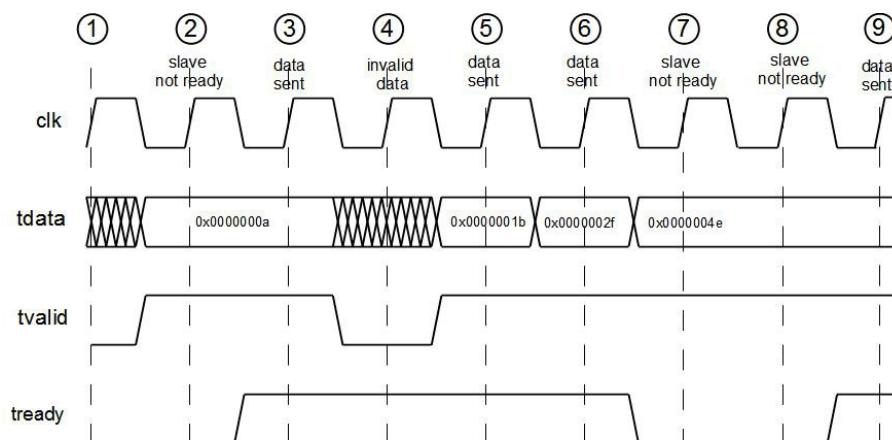

Figure 2
Figure 2 presents an example timing diagram for the AXI-Stream transmission. Master sends 32-bit data to the slave. Words 0x0000000a (3), 0x0000001b (5), 0x0000002f (6), and 0x0000004e are sent (9). Words 0x0000000a and 0x0000004e wait for the active tready (2, 7, 8) . Words 0x0000001b and 0x0000002f are transmitted in one clock cycle (5, 6), although word 0x0000001b is not available immediately (4).